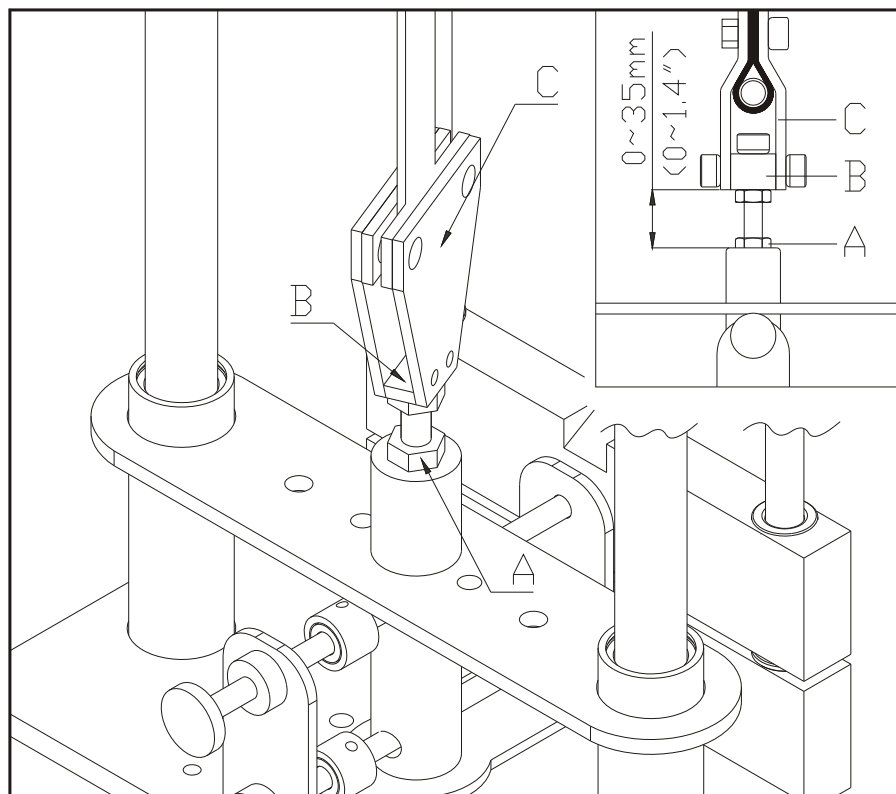

Fig.3
2. The gap between nut A and B must be within 35mm(1.4"). If the gap still exceeds the 35mm limit after the first step, please loosen the screws on C and adjust the belt to the proper length. Tighten the screws and follow the 1st step again. (See Fig. 3)